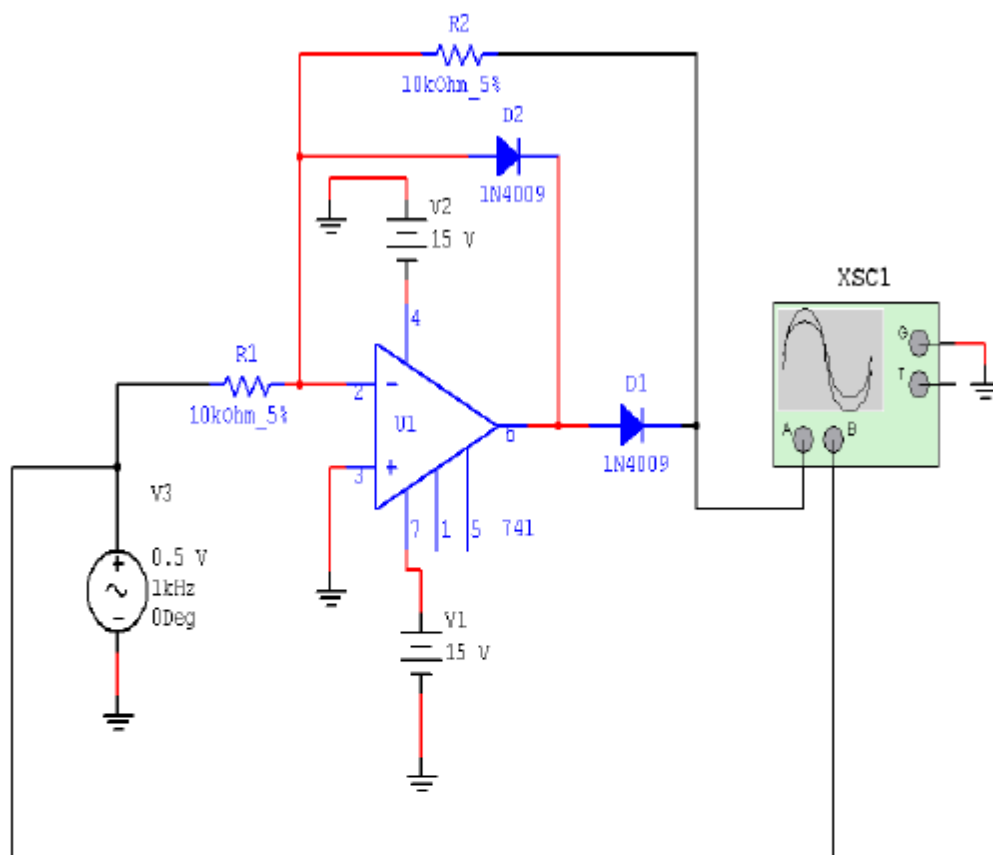

Fig.24 Precision Half Wave Rectifier
- Construct the circuit shown in Fig.24.